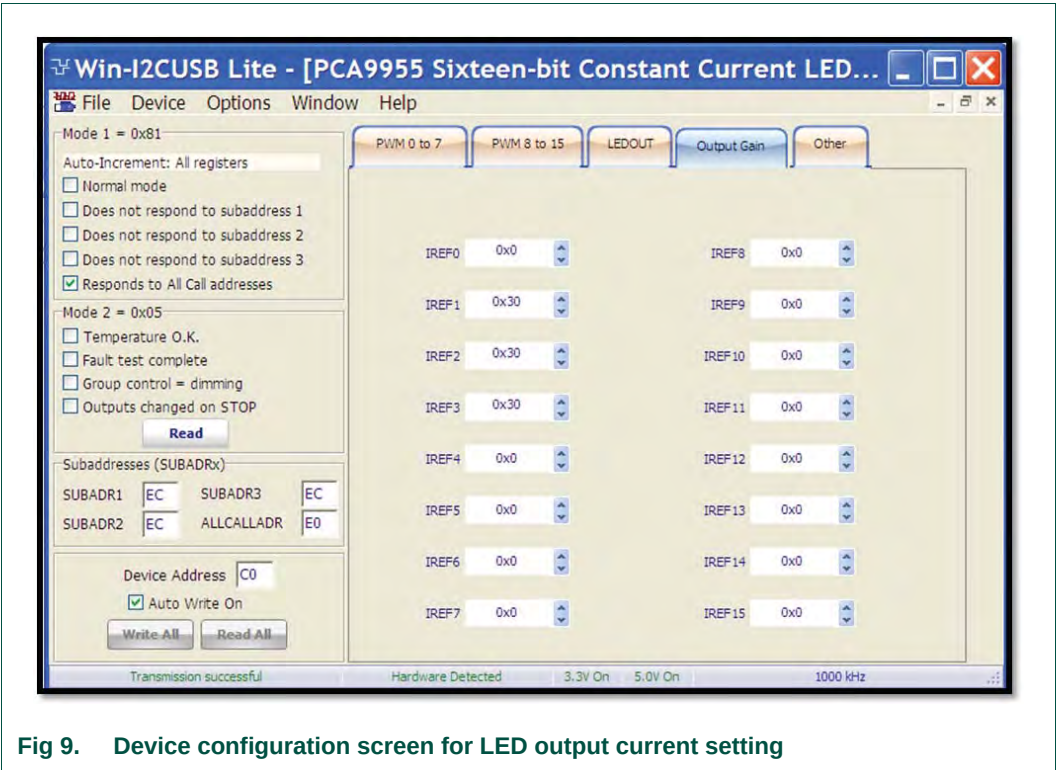

Fig 9. Device configuration screen for LED output current setting
- 'Output Gain' LED output current setting for LED0 to LED15 as shown in Figure 9.
- 5. Click the ‘Output Gain’ configuration screen and adjust the IREF[1:3] = 0x30 for LED[1:3] output current at 3.8 mA = $48 \times 80 \mu\text{A}$ (see Figure 9).